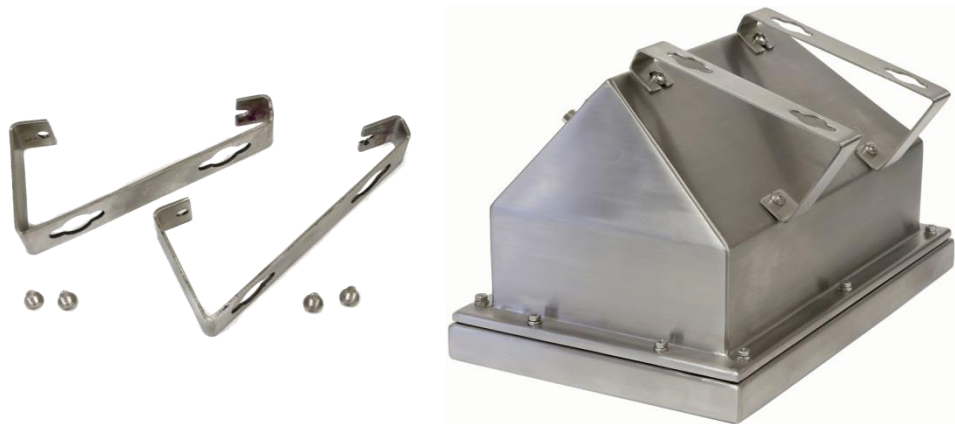

Figure A-10: Wall-Mounting Brackets (left), Attached to Enclosure (right)
1. Bolt the two brackets to the bottom of the enclosure using the four M5 screws included with the brackets. The brackets should be attached as shown in Figure A-10.